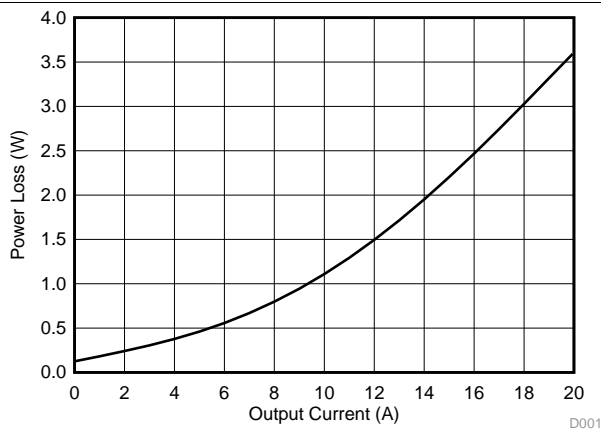

Figure 1. Power Loss vs Output Current
MOSFET centric parameters such as $R_{DS(ON)}$ and Q_{gd} are needed to estimate the loss generated by the devices. In an effort to simplify the design process for engineers, Texas Instruments has provided measured power loss performance curves. **Figure 1** plots the power loss of the CSD86336Q3D as a function of load current. This curve is measured by configuring and running the CSD86336Q3D as it would be in the final application (see **Figure 30**). The measured power loss is the CSD86336Q3D loss and consists of both input conversion loss and gate drive loss. **Equation 1** is used to generate the power loss curve.
The power loss curve in **Figure 1** is measured at the maximum recommended junction temperatures of 125°C under isothermal test conditions.
- Power loss at 18 A = 3.03 W (Figure 1)